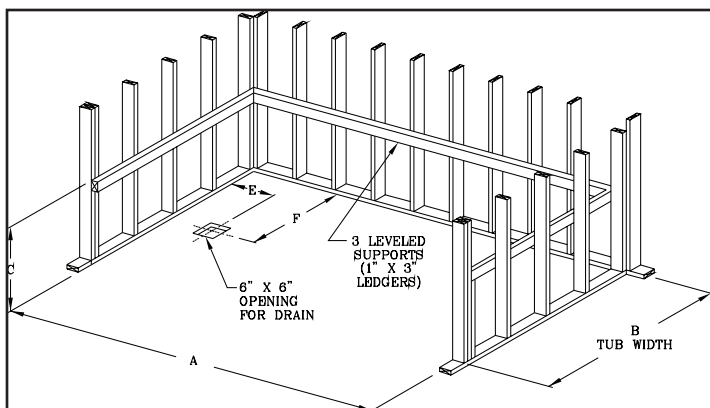

FIGURE 4
2.2 For rough-in dimensions, you may measure your bathing fixture on the jobsite or log on to our website at www.AquaGlass.com to obtain a specification sheet for your alcove bathing fixture. Make sure frame is level and square. (*Figure 4*)
2.4 Be sure to provide a 6" x 6" square opening in the floor for all bathing fixtures to permit clearance for the 2" pipe supply and drain. (*Figure 4*)
3.2 Be sure to provide a 6" x 6" square opening in the floor for all bathing fixtures to permit clearance for the 2" pipe supply and drain. (*See Figure 4*)